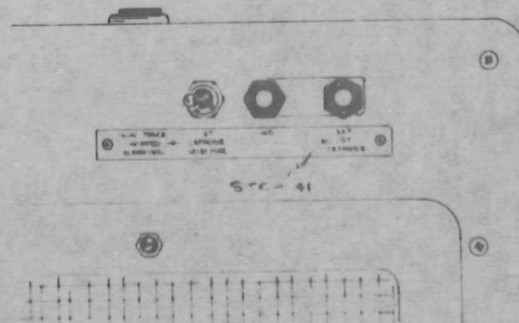

Fig. 7
- () Drill two no. 43 holes and mount the tag with the 4 x 1/4 thread-forming screws from the kit (see Fig. 7).